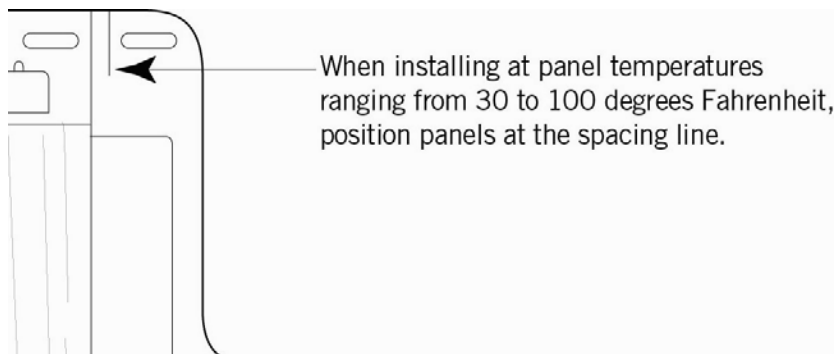

Figure 1
2. As with any plastic exterior building material, Exteria panels will expand and contract with a change in temperature. Therefore, during installation it is necessary to position the panels properly to compensate for temperature effects. When installing at panel temperatures from 30 to 100 degrees Fahrenheit, position the next panel so that its upper left edge is on the spacing line (Figure 1).